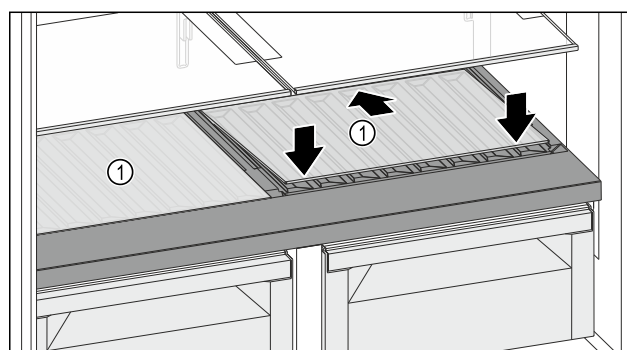

Fig. 127
- Place the glass shelf Fig. 127 (1) at an angle, tilted back and down.
- Lower the glass shelf Fig. 127 (1) at the front.